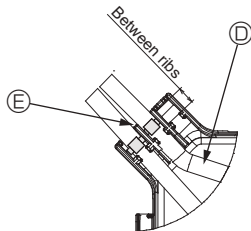

Fig. 4-6
**When installing the covers, make sure that the wires do not get pinched. Fit the band securing the junction wires between the ribs on the connector box as shown in the diagram. (Fig. 4-6)**